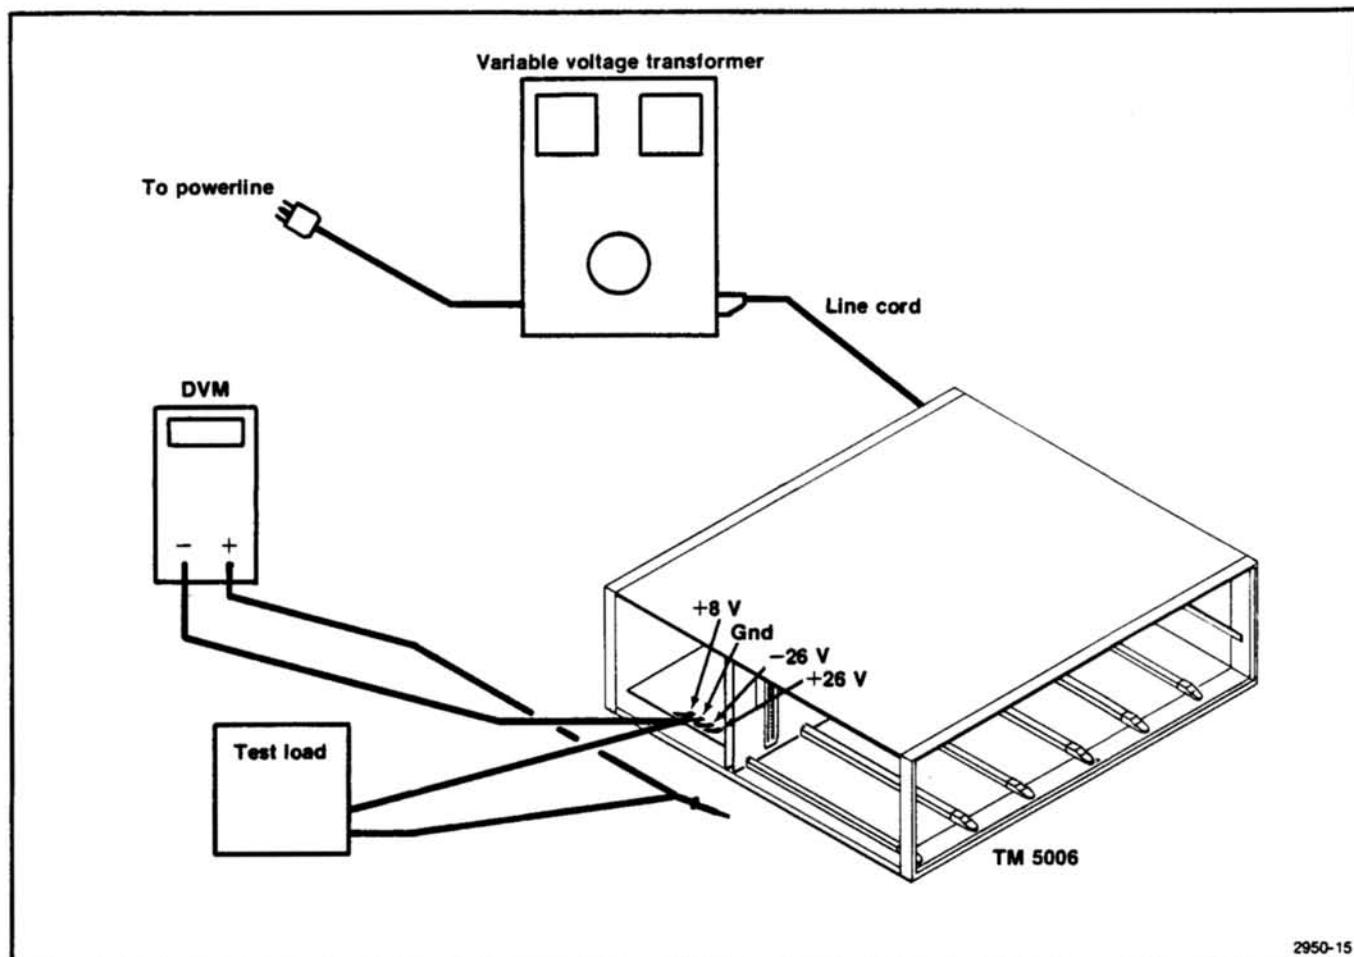

Fig. 4-2. Test setup for performance check steps 1, 2 and 3 and location of connections for adjustment step 1.
- Connect the test equipment as shown in Fig. 4-2. Adjust the line voltage to the TM 5006 for 10% below the nominal line voltage. (Nominal line voltage is the line voltage the instrument is set to operate on.)
- Connect the test equipment as shown in Fig. 4-2. Adjust the line voltage to the TM 5006 for 10% below the nominal line voltage.
- Connect the dvm to the +8 V and Gnd terminals as shown in Fig. 4-2. The voltage bus location is shown in Fig. 4-5.